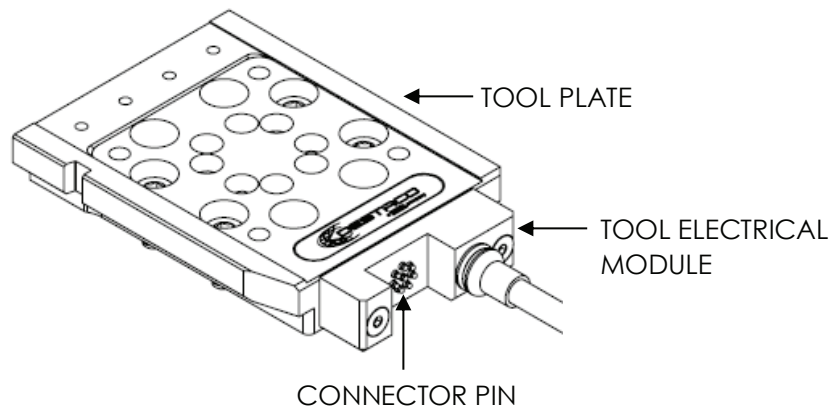
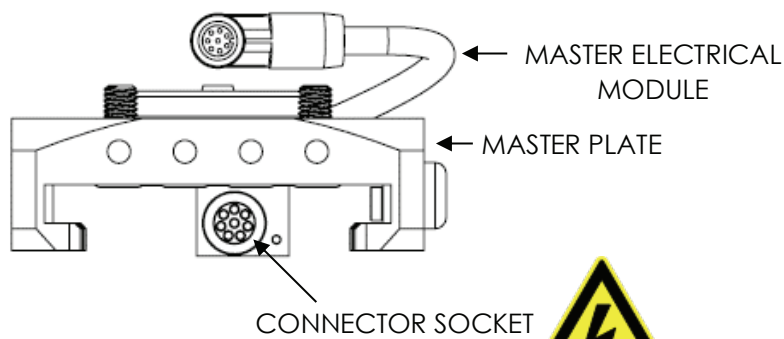

Fig.12
Fig.13
1. Check the electric module periodically for any debris or darkened pins (see Fig.12 or Fig.13).